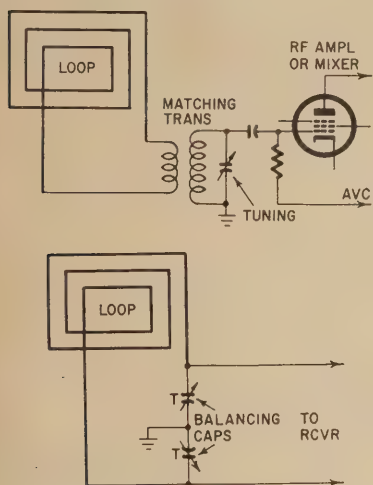

Fig. 3—Two ways of improving an antenna's directivity pattern.
180° apart. But, in practical loops there is some error. They may be a few degrees removed from 180°, so some error in taking bearings is to be expected. In professional direction finders (DF), special care is taken to minimize this error. This is done by balancing the loop with respect to ground. Fig. 2 shows why unbalance occurs and Fig. 3 shows various means for correcting un-